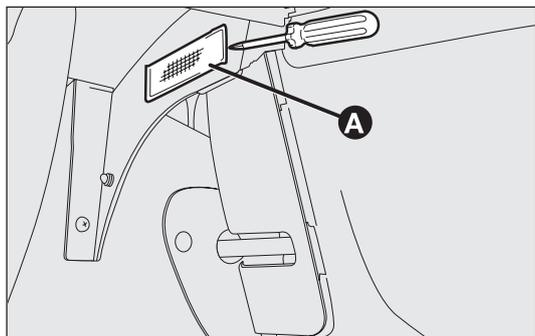

fig. 163
- using the screwdriver provided, extract the ceiling light A-fig. 163 working in the point shown;